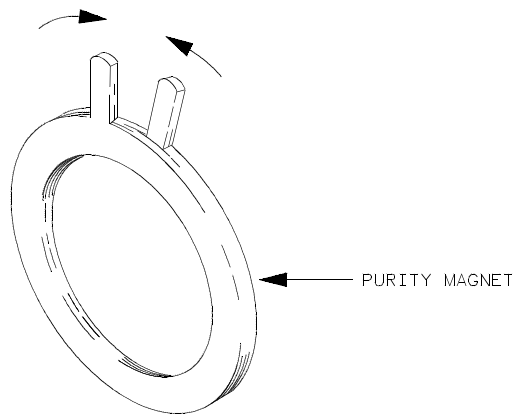

Figure 4-15. Purity Magnet Centering
magnet tabs to mechanical center. See figure 4-15.
7. Adjust the purity magnets until green is in the center of the raster with red and blue bands evenly distributed on the sides. See figure 4-15. The purity magnets need no more than  $\pm 15^\circ$  movement from the mechanical center.